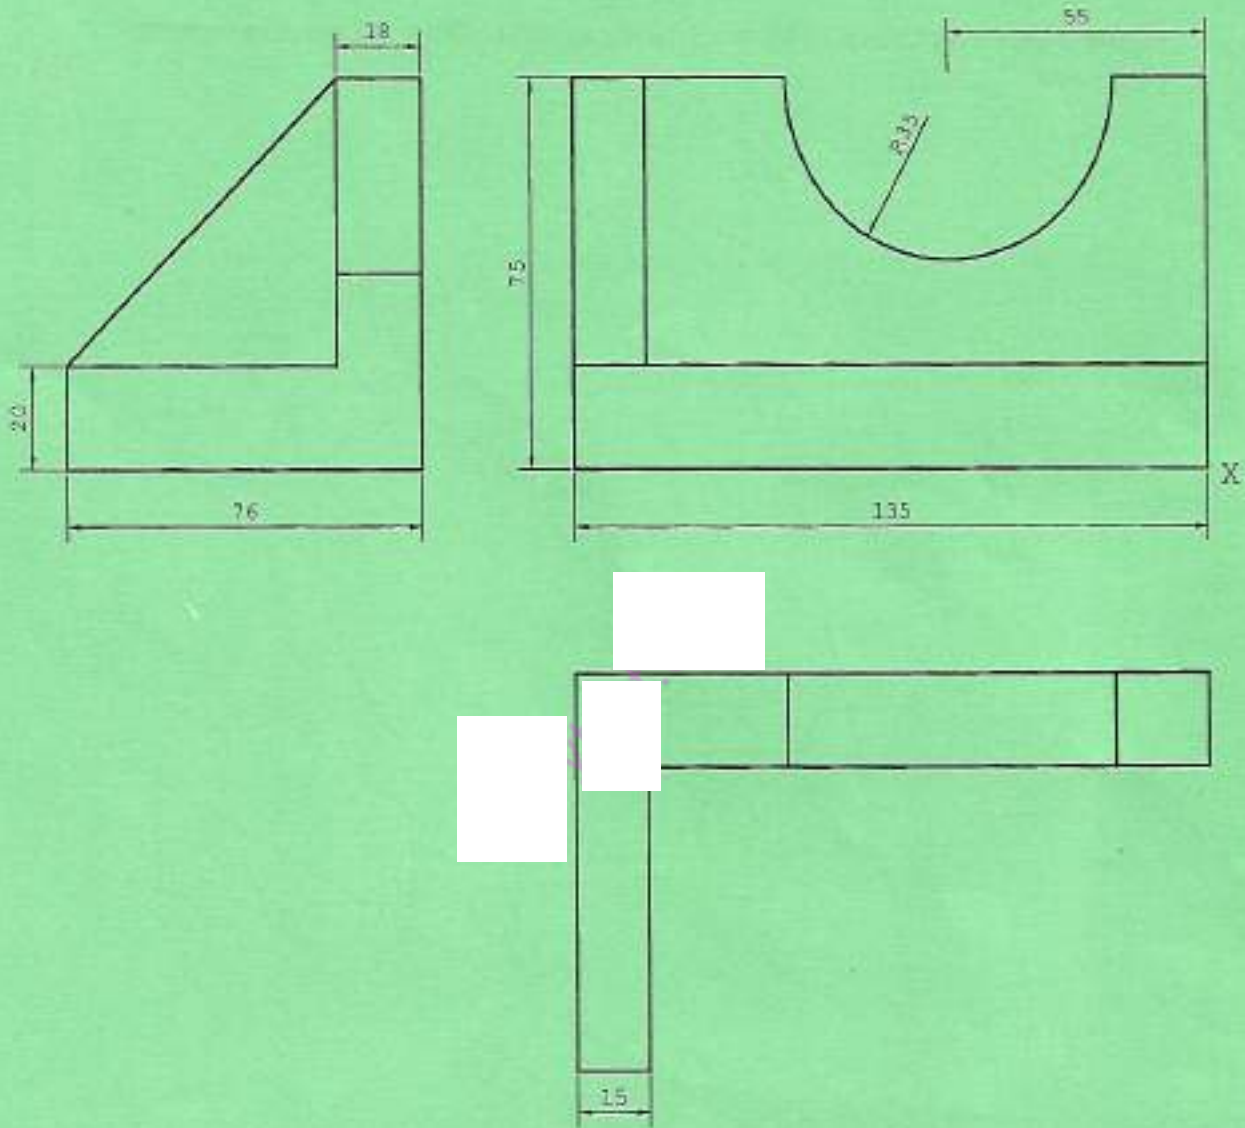

Fig. 5
5. Figure 5 shows orthographic views of a bearing support bracket. Draw full size, and isometric view of the block with corner X the lowest point. (15 marks)